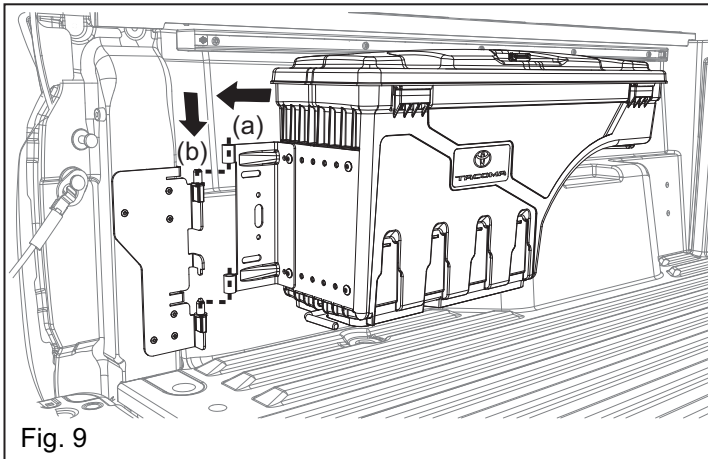

Fig. 9
9. Install the Swingcase, Fig. 9.